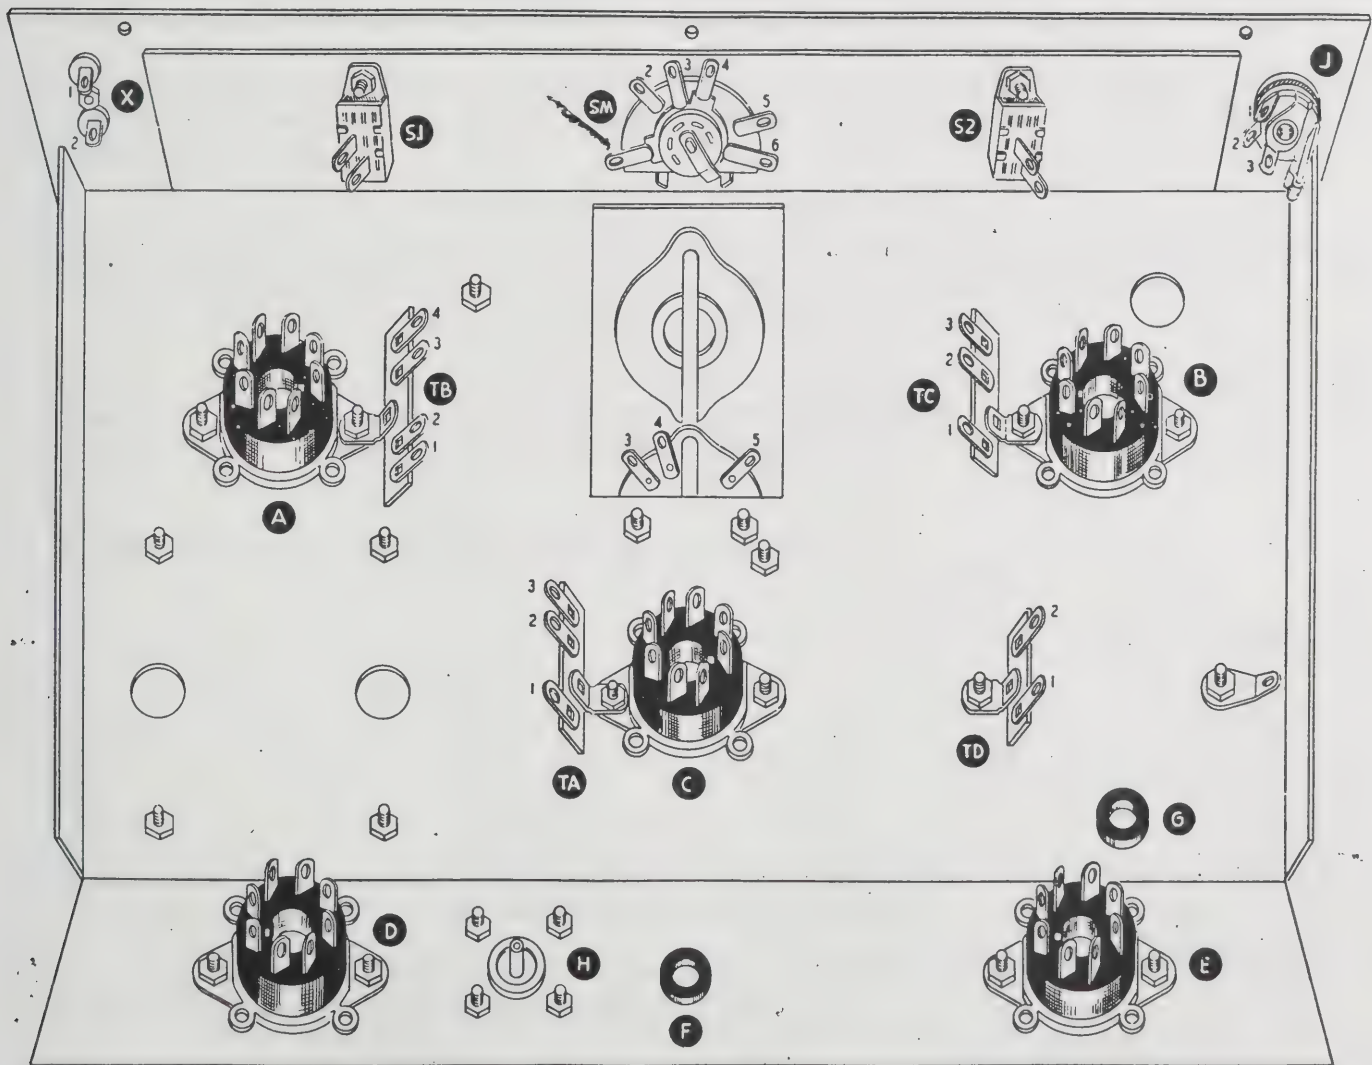

Fig. 1
4. In assembling the kit, use lockwashers under all nuts unless a solder lug is used. Tube sockets are mounted with the metal flange inside the chassis. All screws have their heads on top or outside of the chassis. This construction may be noted by referring to Figure 1. Unless otherwise stated, 6-32 screws, lockwashers and nuts are used in mounting of parts.
- ( ) Mount an octal socket in hole B with the keyway toward the center of the chassis. At the same time, mount a three-lug terminal strip under the chassis and a solder lug on top of the chassis, using the mounting screw nearest the center of the chassis as shown in Figures 1 and 2.
- ( ) Mount an octal socket in hole C with the keyway toward the right side of the chassis when viewed from the rear and a three-lug terminal strip mounted on the left hand mounting screw. Refer to Figure 1.
- ( ) Mount two octal sockets in holes D and E with their keyways as shown in Figure 1.
- ( ) Mount the filter choke on top of the chassis with the leads over the grommet G using the two mounting holes at the right rear of the chassis. Place a solder lug under the nut nearest the edge of the chassis and a two-lug terminal strip under the other nut. See Figure 1.
- ( ) Mount the two slide switches S-1 and S-2 with their terminal lugs in the position shown in Figure 1. The mounting screws for these switches go through both the panel and the chassis and secure the chassis to the panel. Do not tighten the screws yet.
- ( ) Mount the meter switch SM through the 3/8" hole in the center of the panel and chassis, using a 3/8" lockwasher behind the chassis and a 3/8" flatwasher and nut in front of the panel. Refer to Figure 1 for switch position and to Figure 3 for method of mounting controls.
- ( ) Mount the phone jack in the hole provided at the right bottom of the panel, using a lockwasher, flatwasher and nut. Position as shown in Figure 1.
- ( ) Mount the crystal holder so that the terminals protrude through the back of the panel as shown in Figure 1, using a 4-40 screw and nut.
- ( ) Connect the other lead of this condenser to the solder lug near the chassis edge (NS).
- ( ) Connect the positive lead of an 8  $\mu$ fd 350 volt condenser to C3 (NS).
- ( ) Connect the other lead of this condenser to TD1 (NS).
- ( ) Connect the positive lead of an 8  $\mu$ fd 350 volt condenser to TD1 (NS).
- ( ) Connect a 47 K $\Omega$  2 watt resistor between C3 (NS) and TD1 (NS).
- ( ) Connect a 47 K $\Omega$  2 watt resistor between TD1 (S) and the solder lug at the edge of the chassis (S).
- ( ) Connect a wire from C3 (NS) to D4 (NS).
- ( ) Connect a wire from C3 (S) to E3 (S).
- ( ) Connect one end of a wire about 16" long to E4 (S).
- ( ) Run the wire around the outside edge of the chassis as shown in Pictorial 1 and connect the other end to SM1 (NS). Refer to Figure 1 or Pictorial 1 for SM1 connection.